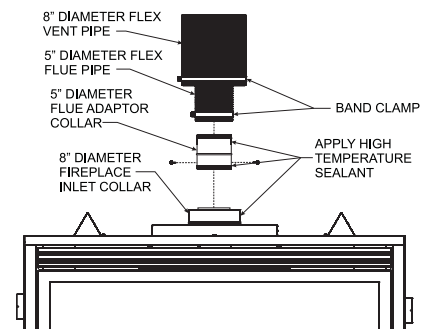

Figure 66
9. Apply sealant to the outside of the flue pipe adapter and connect to the flex flue pipe. Then insert the adapter into the fireplace flue. Secure flue adapter to the fireplace flue with a minimum of two screws provided. See Figure 66.